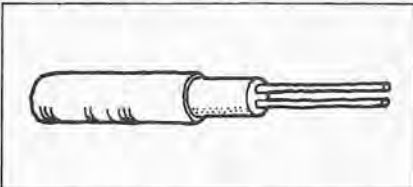

Fig. 5: Mineral insulated cable
*Mineral insulated cable* — copper conductors embedded in mineral insulation with a metal, usually copper, sheathing (MI or MIMS) (fig. 5).